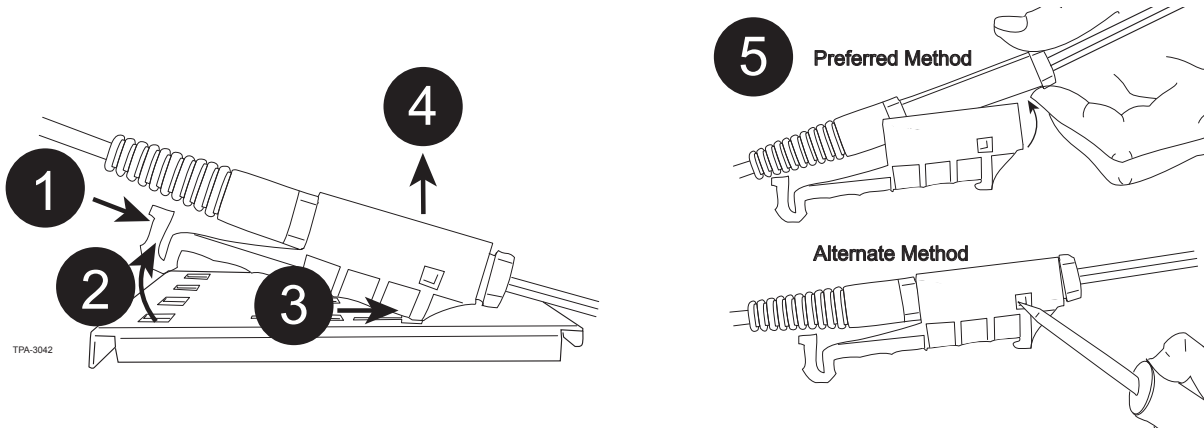

Figure 36 — Remove Trunk Cable from U-Clip Cradle
Step 1: Push in on the latch as shown in Figure 36.